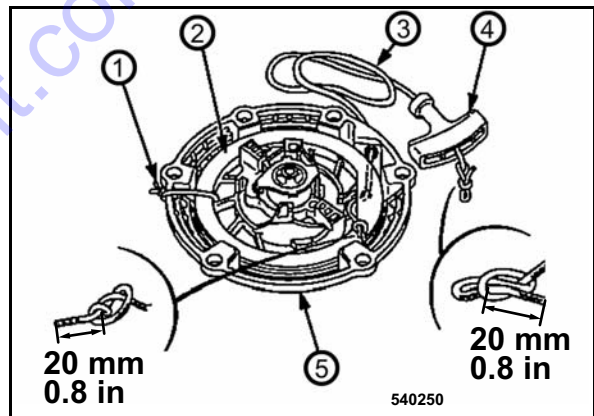

Fig. 65
- Secure the coil (2) (Fig. 65) against winding up. For this purpose fix coil and housing (5) with a cable strap (1).
- Thread in the new starter rope (3) and fix it with knots on both ends.